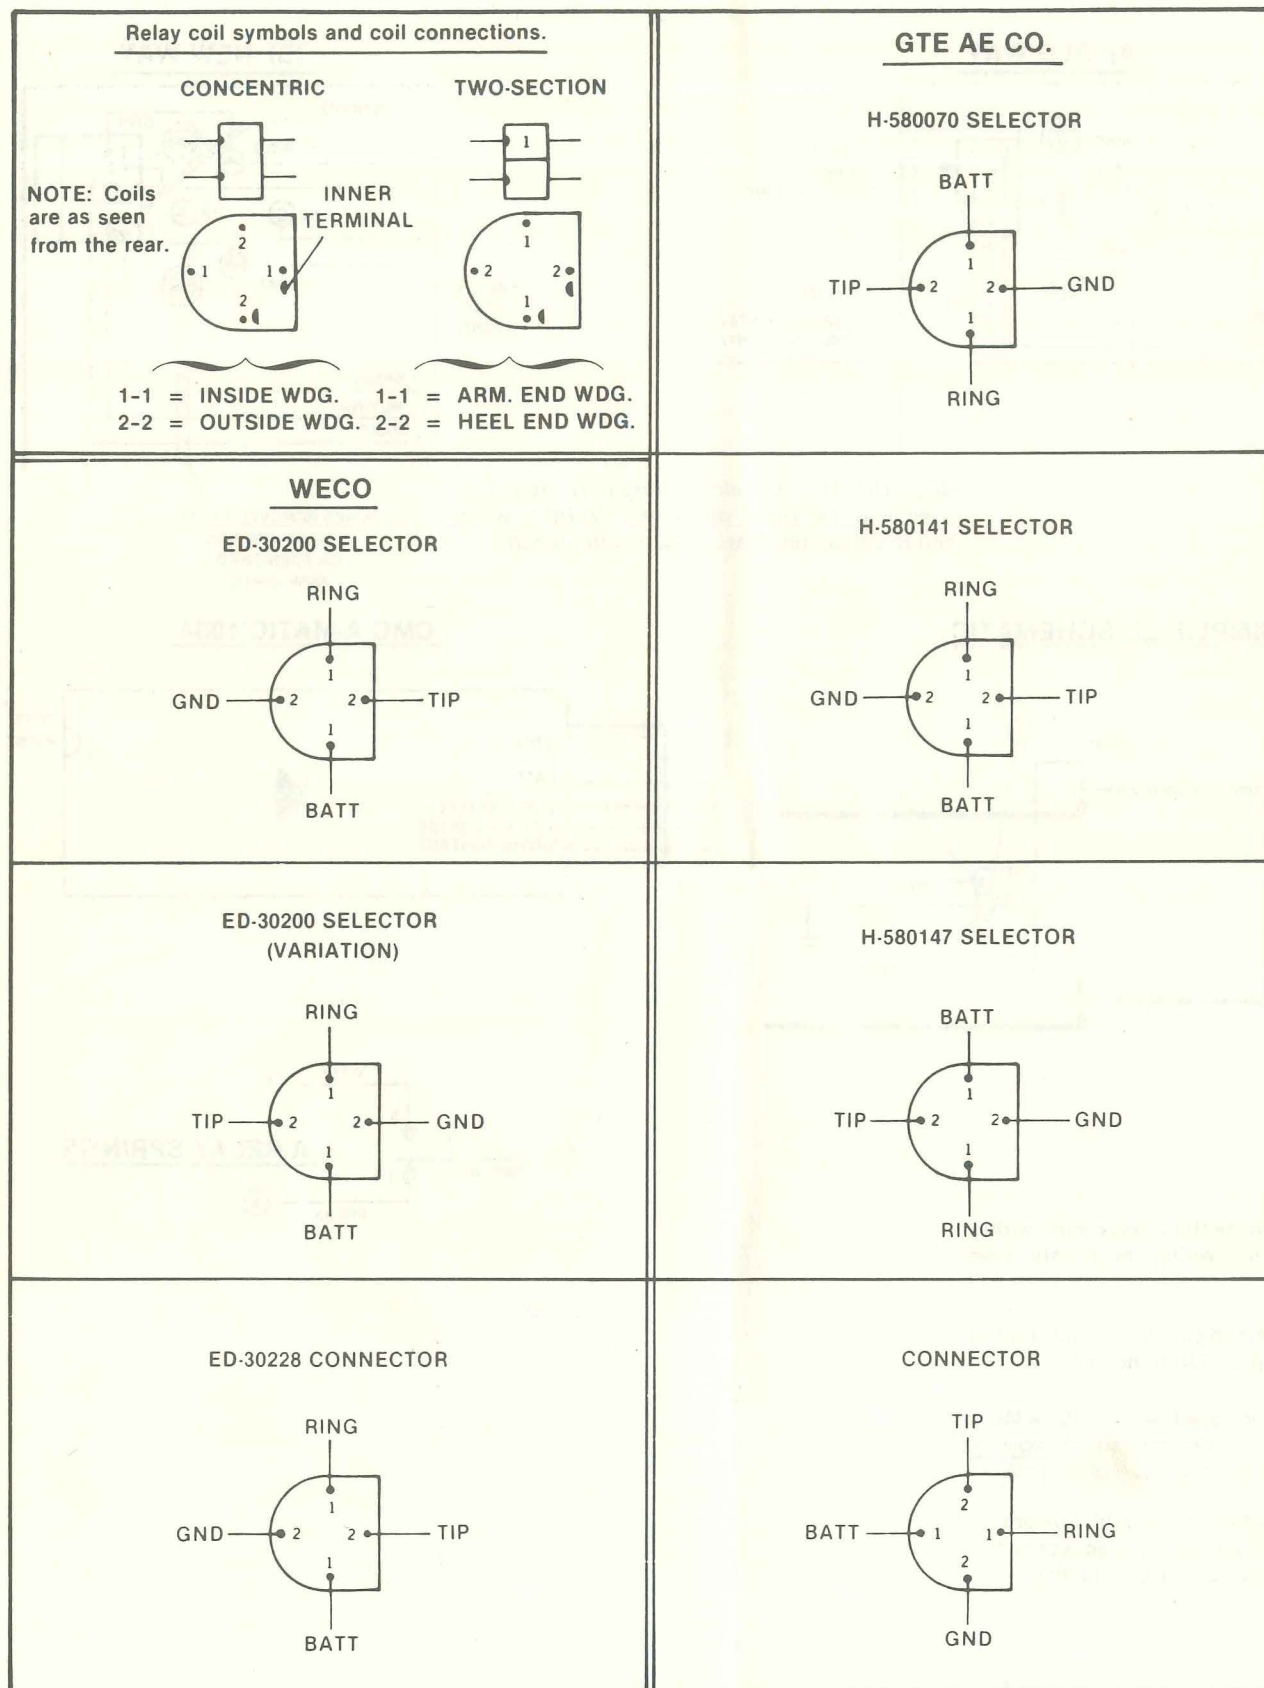

Figure 3 Typical Selector/Connector "A" Relay Wiring.
- (5) Wiring diagrams for some typical selector and connector circuit "A" Relay coils are shown in Figure 3. If the switch being worked on is not shown, the following procedure may be used to identify the "A" Relay coil terminals:
1. Typical two-section relay coil wiring shown. Coil wiring may vary (see Figure 3).
2. The numbers in circles ① indicate the CMC A-Matic 100A terminals.
NOTE: Identify (tag) the wires before removing (Figure 3). Use the tags included with the Solid-State "A" Relay for this purpose. These wires will be reused on the Solid-State "A" Relay.
(5) A wiring diagram for a typical selector circuit "A" Relay is shown in Figure 3. If the switch being worked on is not wired as shown, the following procedure may be used to identify the "A" Relay coil terminals:
- (6) Connect the wires to the Solid-State "A" Relay as follows (see Figure 3):